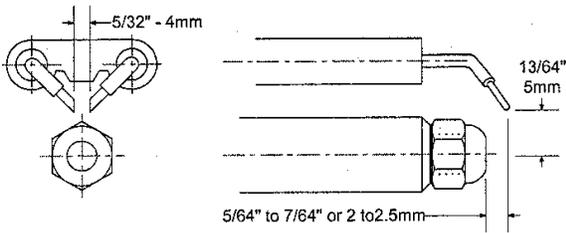

Figure 7: Riello Electrode Setting
- c. **Inspect and measure burner electrodes.** Refer to Figure 7 for the proper electrode settings.